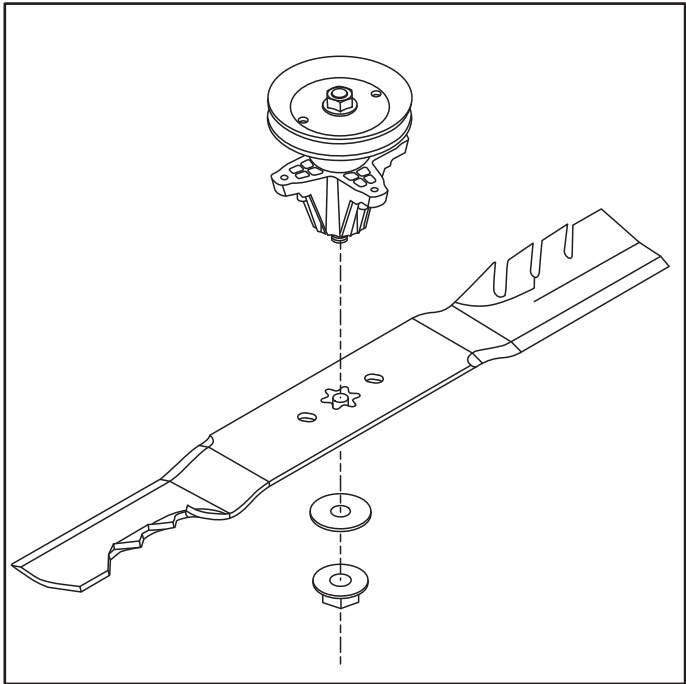

Fig. 32
5. Remove the blade nut, washer and blades.(Fig.32)